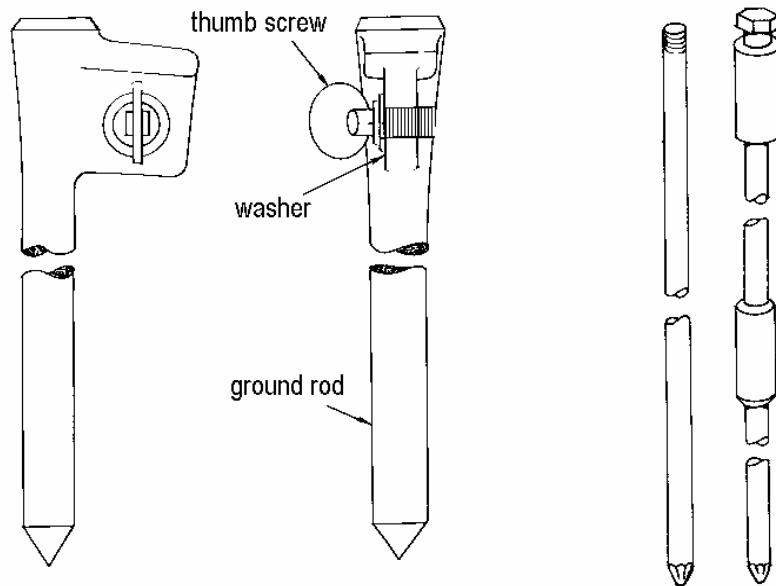

Figure 7 – 6-foot and 8-foot ground rods
1) Ground Rod - Two are available in the Army inventory: the 8-foot ground rod, NSN 5975-00-878-3791, or the 6-foot ground rod, NSN 5975-00-224-5260 (see figure 7). The 6-foot rod comes in a single section, whereas the 8-foot rod is a three-section rod. Ground rods can be installed using a sledgehammer or, in the case of the sectional rod, a slide hammer (NSN 5120-01-013-1676).